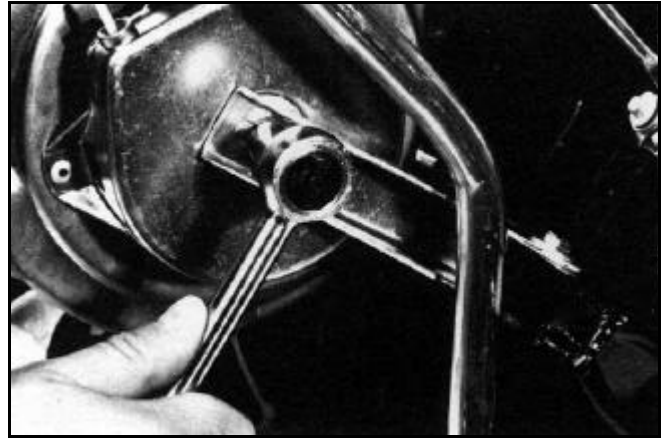
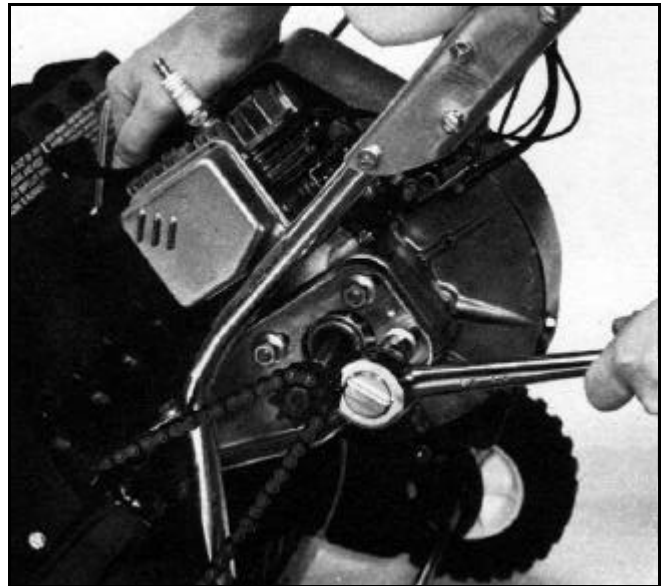
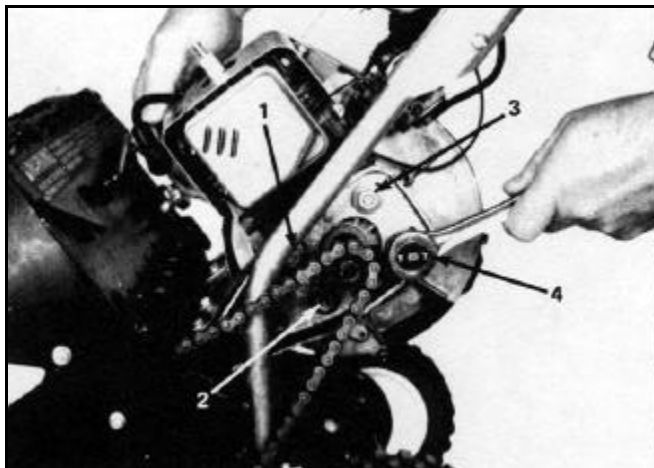

Figure 106
Figure 107
Figure 108
5. Loosen one bolt on the starter housing located on the right side of the engine (Figure 106).
6. Pull the engine back until the chain is snug, with no more than 1/8 inch deflection or slack (Figure 107).
7. Retighten the four bolts in the sequence shown (Figure 108). Then tighten the starter housing bolt on the right side of the unit (Figure 107). The four nuts located on the crankshaft side (left side of unit) of the engine should be torqued to 170 - 220 in-lbs. The bolt on the starter housing should be torqued to 90 - 120 in-lbs.
8. Pull the engine back until the chain is snug, with no more than 1/8 inch deflection or slack (Figure 107).
9. Retighten the four bolts on sequence illustrated in the Chain Adjustment procedure (Figure 108). Torque to 170 - 220 in-lbs. Then tighten the starter housing bolt, on the right side of the unit, 70 - 120 in-lbs. (Figure 106).
14. Pull the engine back until the chain is snug, with no more than 1/8 inch deflection or slack (Figure 107).
15. Retighten the four bolts in sequence as illustrated in the Chain Adjustment Procedure (Figure 108). Torque to 170 - 220 in-lbs. Then tighten the starter housing bolt, on the recoil starter housing, 70 - 120 in-lbs (Figure 106).